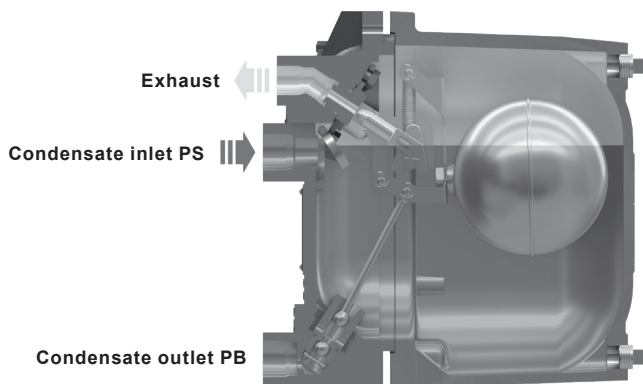

Fig. 7
Step 2 (Fig. 7)
With some temperature controlled equipment, it is possible for the system pressure PS to be lower than the backpressure at PB (Fig. 7).